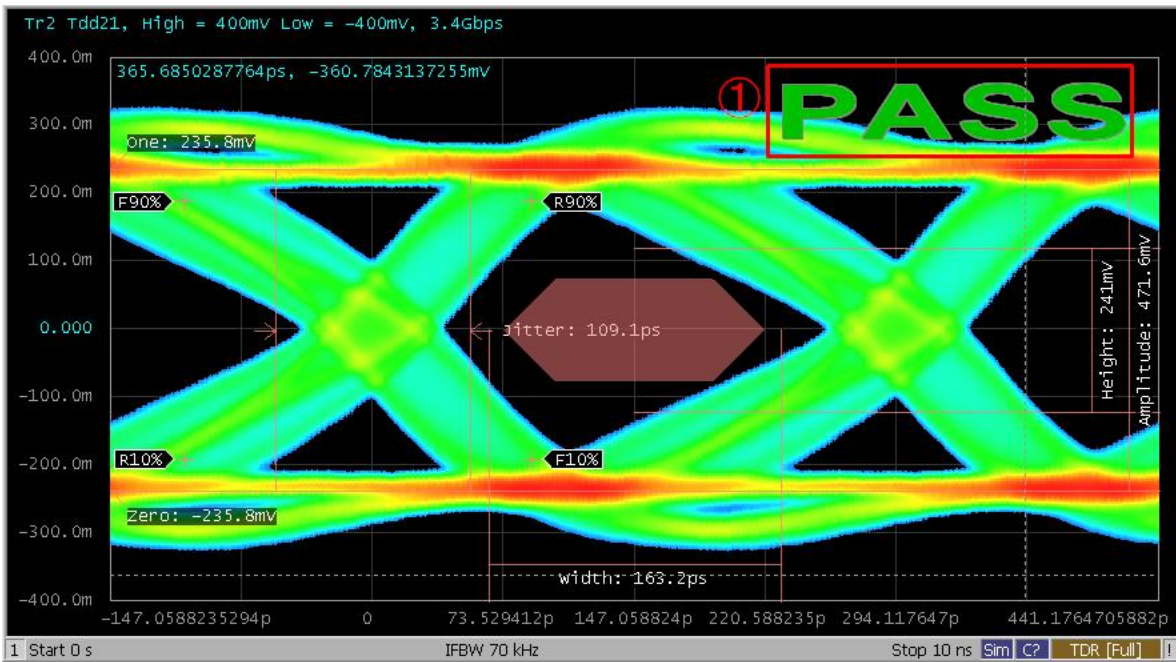

Figure 5-6 The eye diagram of cable output signal
Read the pass/fail sign on the eye diagram (item1 in Figure 5-6).